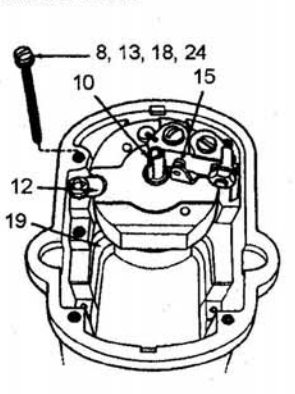

Figure 1
- (1) Check for rust and corrosion on screws (8, 13, 18, 24), bearing cap hold down clamps (12), rotor shaft (10), breaker point assembly (15), frame and coil laminations (19), etc. See Figure 1. Rust and corrosion are signs of contamination and require component cleaning or replacement (reference paragraphs 3.B and C of this bulletin and Slick Maintenance and Overhaul Manual L-1037.